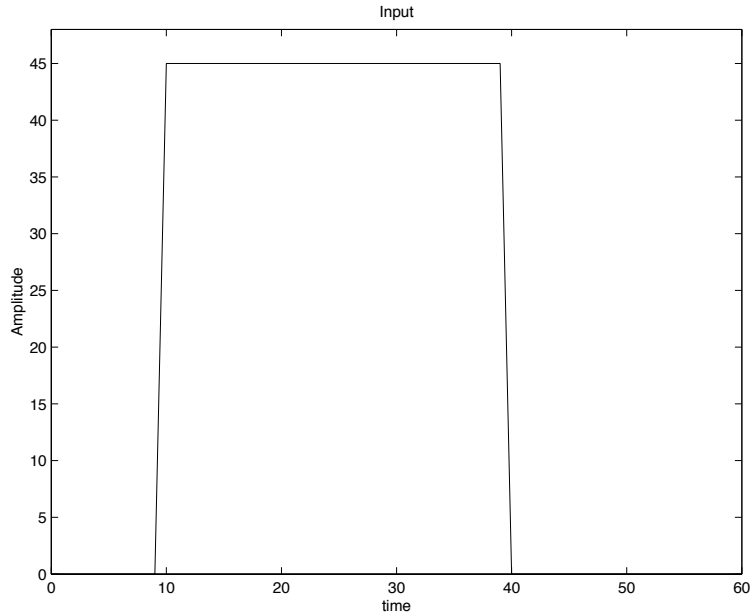

Figure 2: Signal input for the experiment.
- The signal must look like the one that you see in Figure 2.